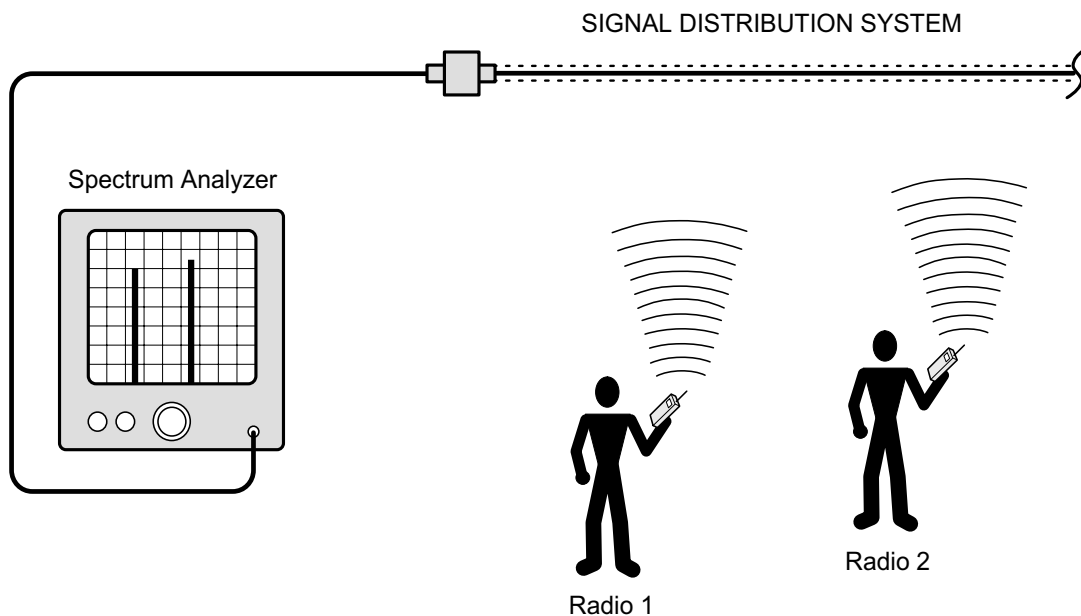

Figure 3: Typical test equipment setup for measuring input signal levels.
- 4) Connect the analyzer to the section of the signal distribution system that is going to serve as the input (see figure 3).